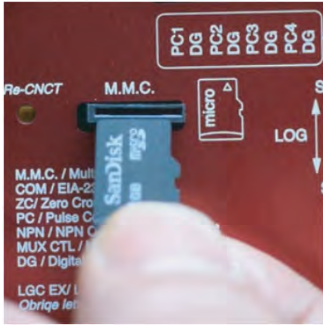

Figure1.
2.1 Insert the memory card as figure1 shown. This is the direction with the notch on the right. The format is FAT32.